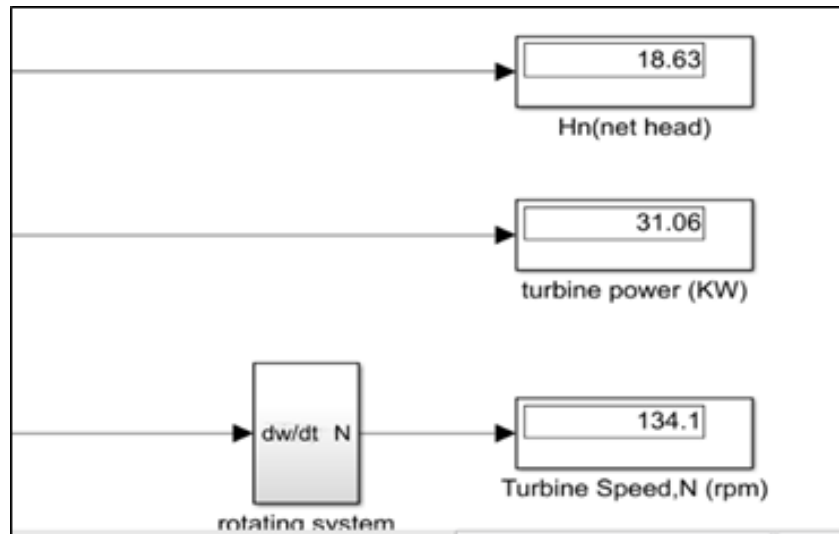

Figure 5.5: Turbine Power, P reading [3]
5. Record the reading of Turbine Power, P (kW) as shown in Figure 5.5 in Table 5.2 in result section.